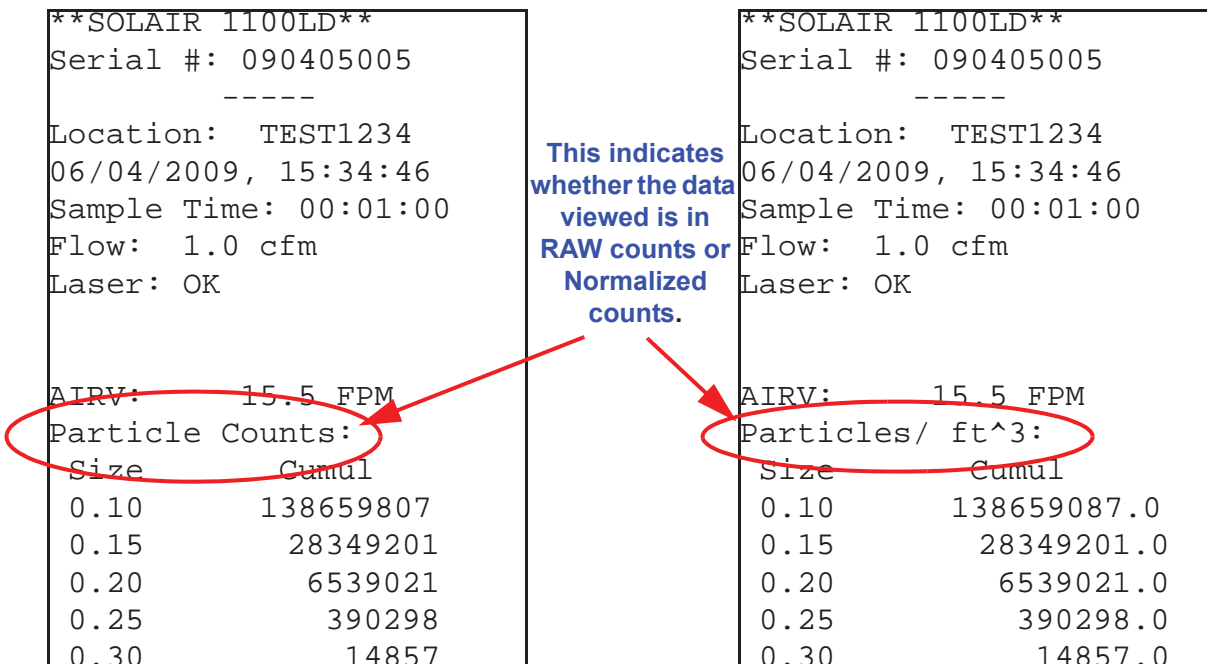

Figure 6-83 Sample Report Formats
- Raw (“Particle Counts”) or Normalized (“Particles/ft³” or “Particles/m³”). See Figure 6-83.